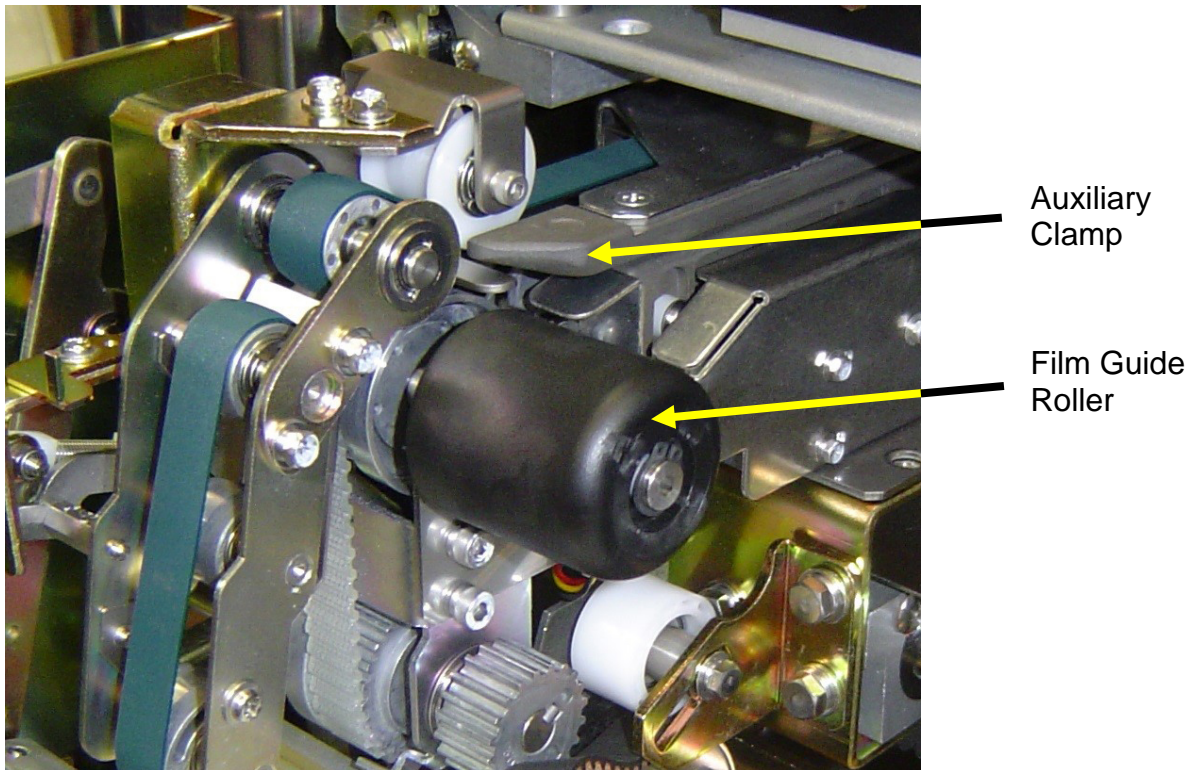

Fig 3. Film Guide Roller and Auxiliary Clamp
1. Remove the large black Film Guide Roller secured by a spring clip. (Fig. 3)
2. Remove the Auxiliary Clamp secured by two counter sink phillips screws. (Fig. 3)